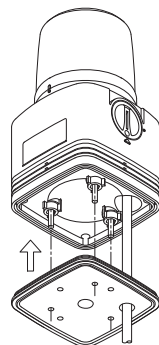

Figure 1: Rubber Mounting Attachment
- Attach the rubber mounting to the product as shown in "Figure 1: Rubber Mounting Attachment".